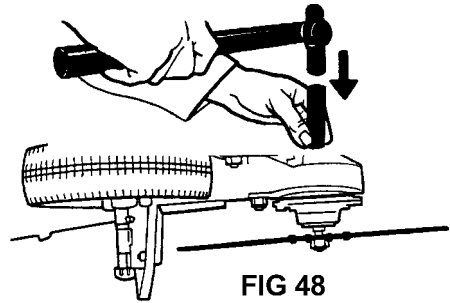

FIG 48
4. With a soft punch, tap hex end blade shaft as in Fig 48 until cover and gear assembly pops out of body housing.